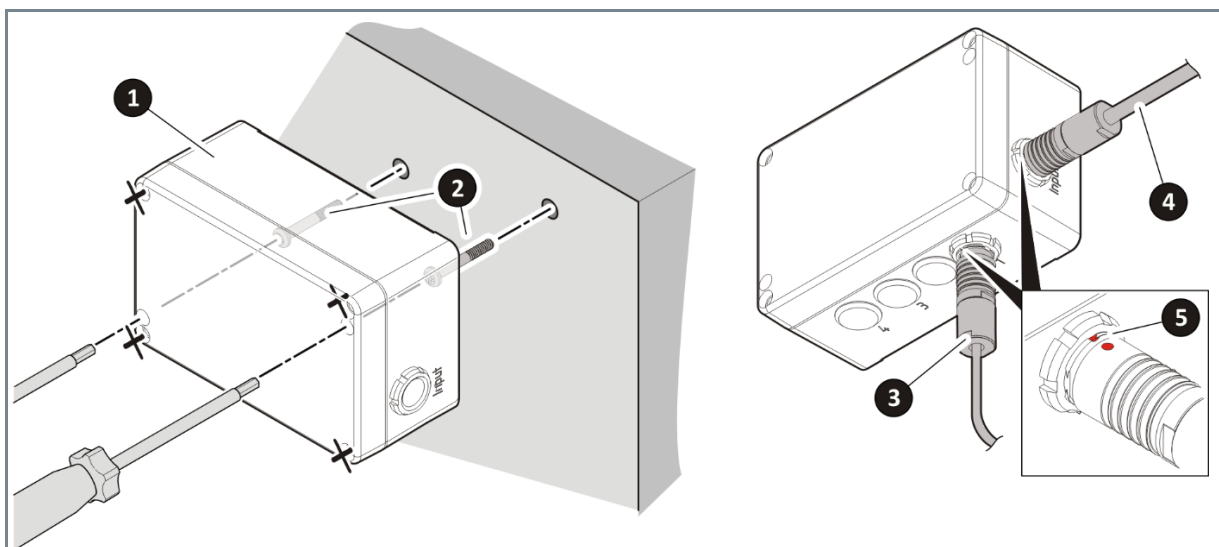

Fig. 6 Installing the DynamicMold® connector and plugging it in
1. Screw the enclosure of the DynamicMold® Controller Fig. 6, ①) to the mold. Use a nut lock to keep the bolts from loosening (Fig. 6, ②). The screw locking method and tightening torques to be used are defined by the operating company.
2. Plug the cable for the DynamicMold® Insert (Fig. 6, ③) into Socket 1 of the DynamicMold® Controller. Use the red marking (Fig. 6, ⑤) to align the plug correctly to the connection socket. When using several DynamicMold® Inserts at once, make sure to assign the Inserts to the sockets that specifically apply to them. Close off any unused connections with the protective caps optionally available.
4. Plug the controller cable (Fig. 6, ④) into the DynamicMold® Controller's "input" socket (which should have been mounted on the machine beforehand).